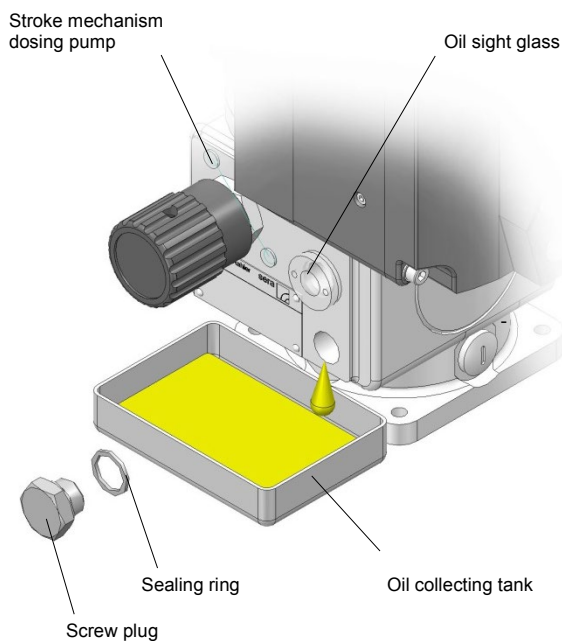

Fig. 77 Oil change
- Prepare an appropriate container. Open the screw plug and drain off oil (see Fig. 77).